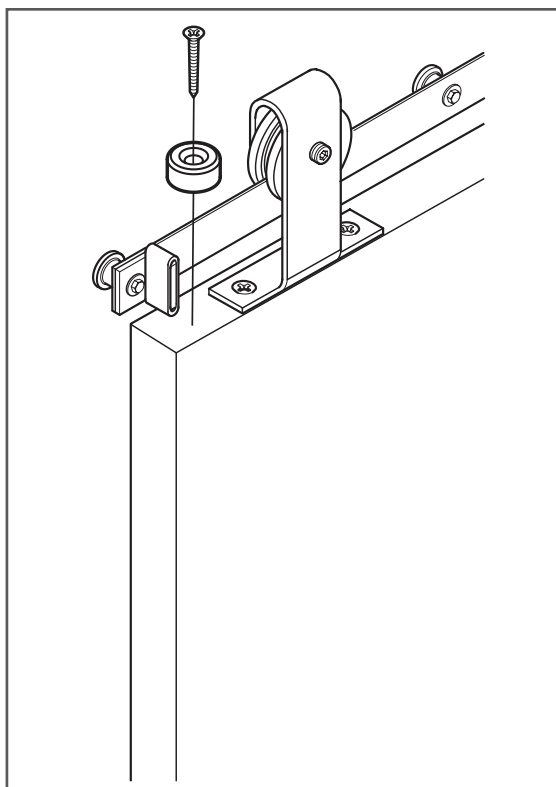

Figure 11
23. Place the Anti-Jump block on the top of the door (Figure 11). Using a drill with a phillips bit, install the the block with the 1" phillips screw (provided).